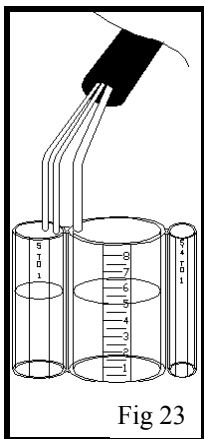

Fig 23
Check drink strength with a brix cup and re set to the manufacturers setting. Fig 23.
7. Prime waters and syrups through to dispense nozzle & check drink strength with a brix cup. Fig 23 P8.